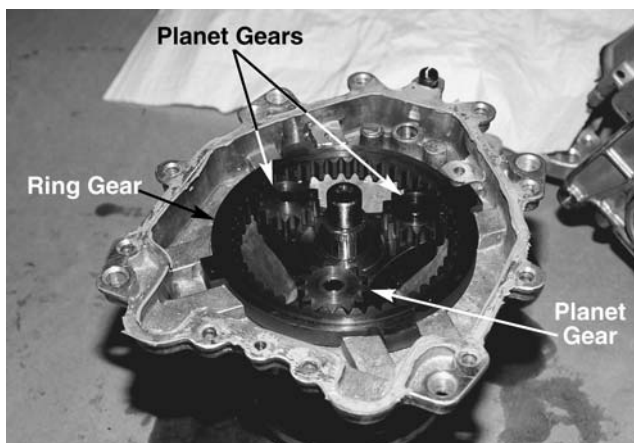

Figure 10-51.
11. Remove the internals from the housing and inspect them for damage. See Figures 10-51 and 10-52.
12. Remove the ring gear, three planetary gears which come off the carrier, and the carrier which is splined to the shaft. All of these parts should be a slip fit and come off easily. See Figures 10-51 and 10-52.